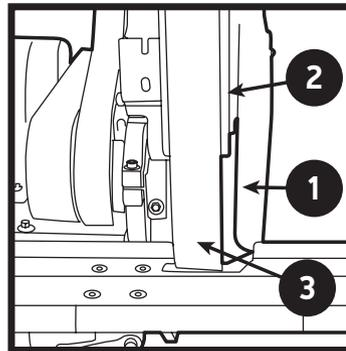

Figure 1
- a. The contact wheel guard and vertical platen are mounted and adjusted such that the platen lightly touches the back of the abrasive belt (Figure 1).**See page 7 for complete instructions on installation.**